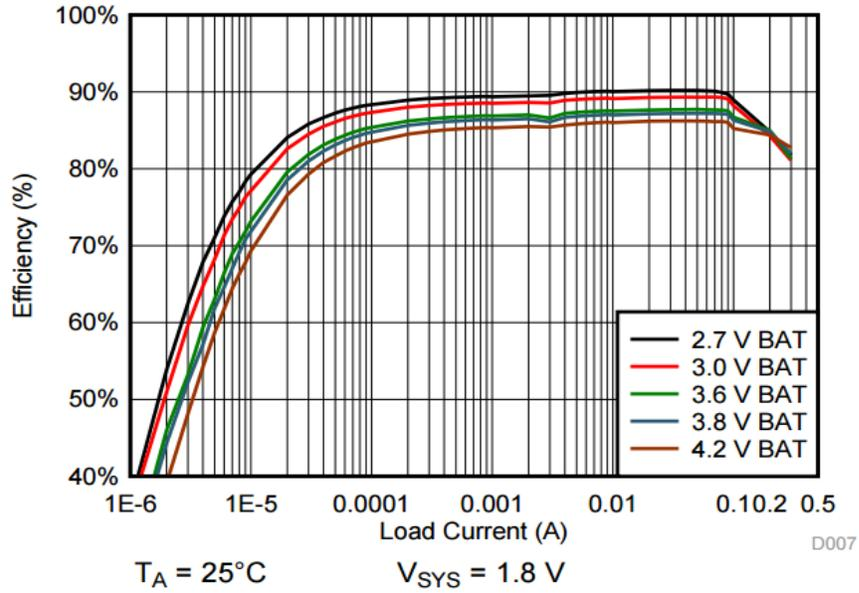

Figure 7. TIDA-00761 System Efficiency vs Battery Voltage ($V_{SYS}=1.8V$)
- Figure 7 shows the system efficiency across the different battery voltage with $V_{SYS}=1.8V$.